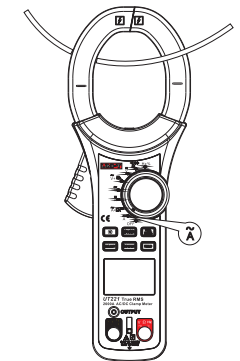

Figure 10
8. AC current measurement () (See Figure 10)